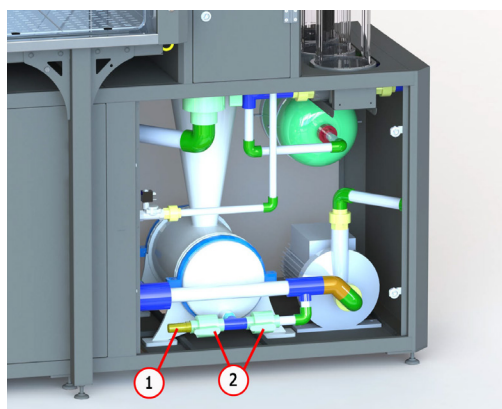

Figure 50
2. Connect a flexible 1" hose to the fitting (see item 2, Fig. 50). Connect the other end of the hose to a container for collecting wastewater, positioned below the floor level of the stand.
3. Open valve (item 2) and drain all water from the tank.
4. Upon completion of water draining, close valve (item 2), disconnect the flexible hose, and place the stand panel back in its place.